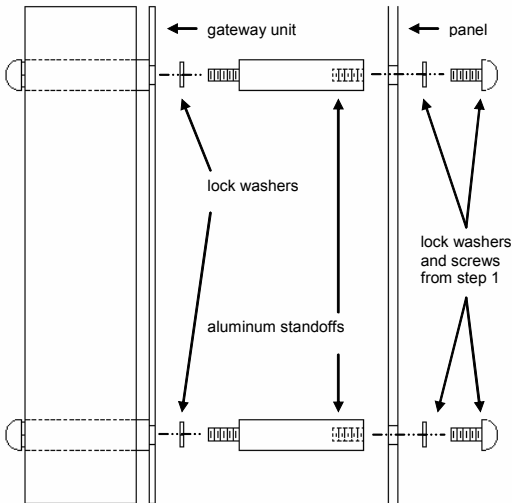

Figure 1: Standoff Kit Installation
2. Install one of the male/female standoffs and a #6 lock washer from the standoff kit through the unit's circuit board and into the bottom of the cover standoff. Refer to Figure 1.
- As shown in Figure 1, use the four screws and lock washers from step 1 to mount the unit from the back side of the panel.